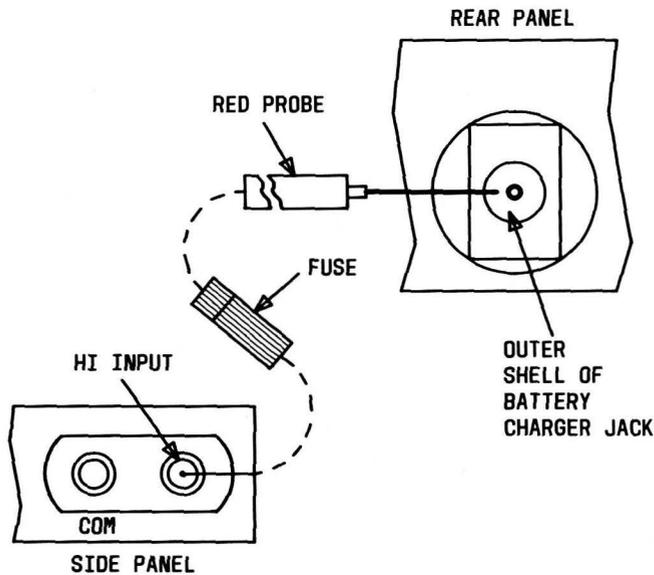

Fig. 4—Battery Check Diagram
3.05 Check the battery charge level by using the meter on DCV function and the 10 range. With the KS-20599, L403, leads plugged into the meter, place the Hi (red) probe on the metal ring of the battery charger jack (see Fig. 4). A negative measurement with a value in excess of 7.2 indicates a charged battery. If the reading is less than 7.2, the line cord and charger must be used to recharge the battery pack.